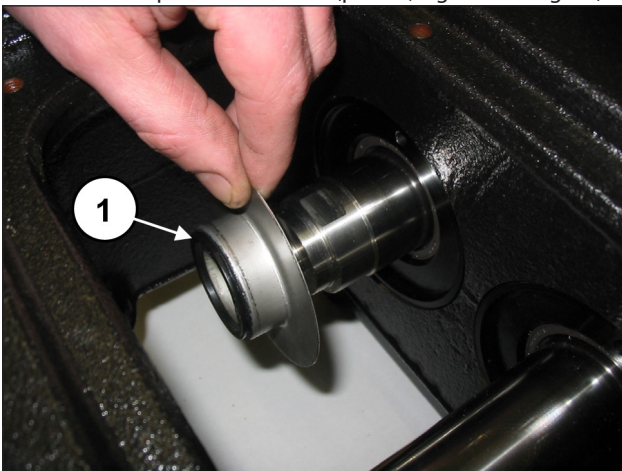
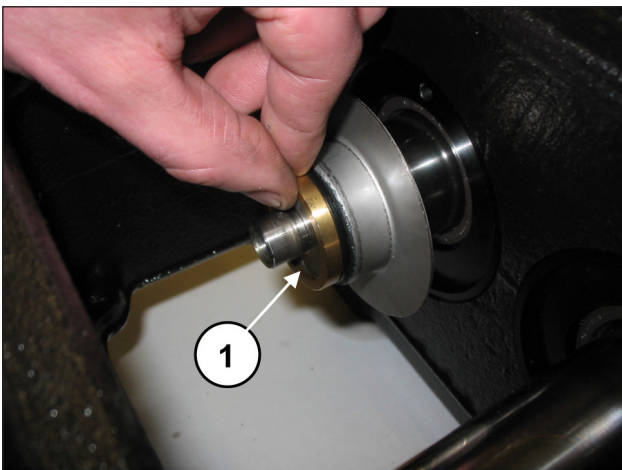

Fig. 97
Fig. 98
Position the spray-guard and the spray-guard spacer ring in the seat on the piston head stem (pos. ①, Fig. 97 and Fig. 98).